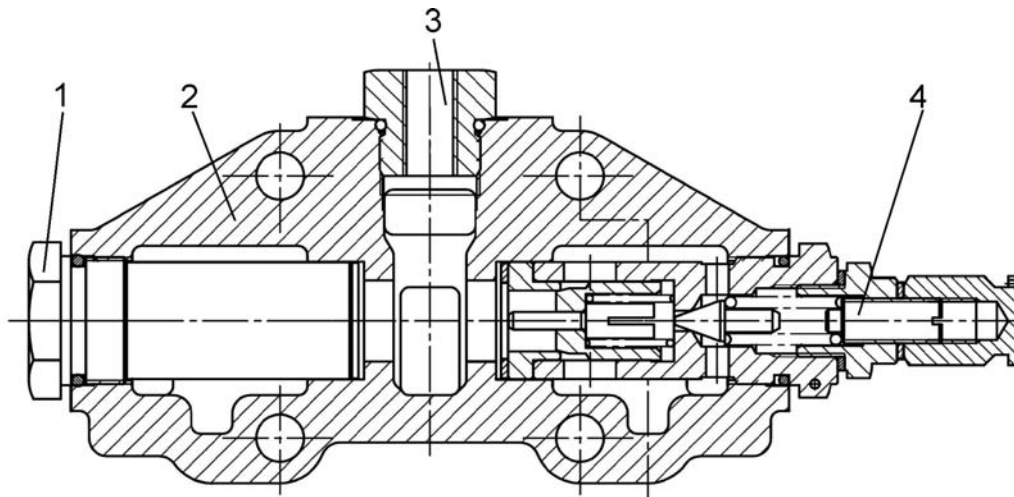

Fig. 10B.22. Cross Section View of Inlet Section
Valve (Refer to Fig. 10B.17)
- A. Position valve on work bench. Remove relief valve (3) from inlet section housing (1). Remove nuts from the studs (13) and separate components: inlet section (Fig. 10B.21), tilt section (Fig. 10B.22) and outlet section (Fig.10B.23). Discard seal kit (8) and replace with new. Refer to the following for relief valve and blade tilt section service.
- B. Thread nuts on the studs (13) and position through outlet section housing (10). Place outlet housing (10) with sealing surface up on bench. Insert new seal kit (8) to outlet section housing (10) and tilt section (5). Slide tilt section (5) and inlet section (1) on the studs (13). Secure remaining nuts to the studs and torque. Install relief valve (3) to inlet housing (1) and torque. Refer to SPECIFICATIONS under BLADE TILT CONTROL VALVE in this Section.